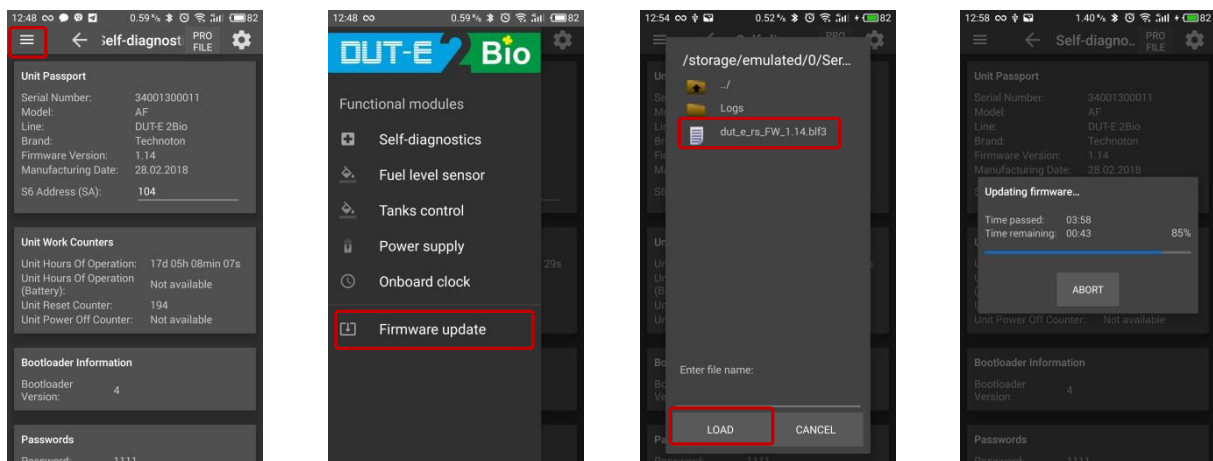

Figure 45 — Procedure for the Unit firmware update
2) Click  on the **Tools Panel** of S6 application and select  **Firmware update** in the opened **Navigation Menu** (see figure 45).